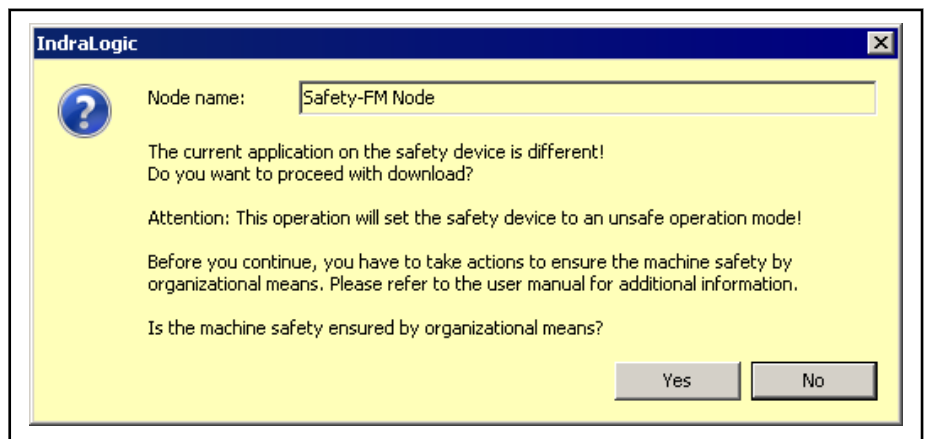

Fig. 8-3: Dialog box when logging in to a control with a modified application
- If the current application was changed, a dialog asks if the application on the safety control should be closed and the current application loaded (see fig. 8-3 "Dialog box when logging in to a control with a modified application" on page 119). If this current application is loaded (download) to the safety control, the safety control is in **Debug Operation**. The application is in online mode.